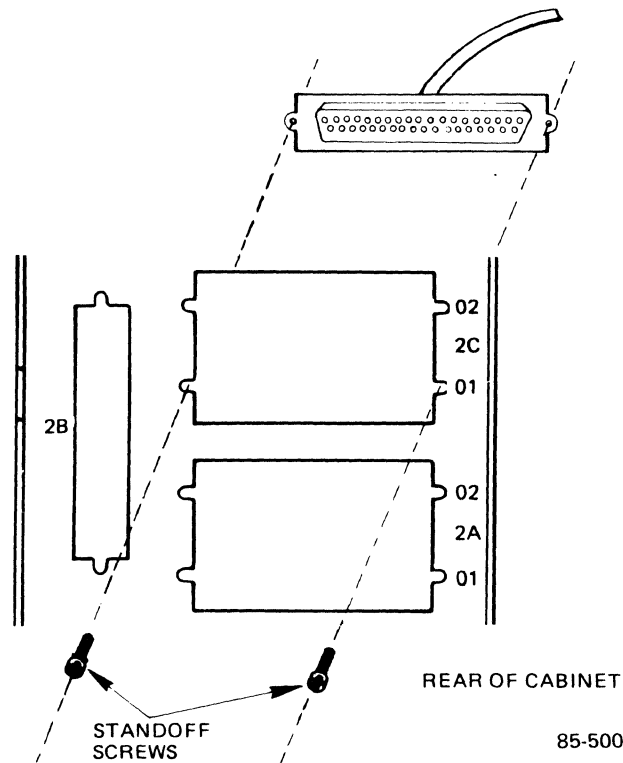

Figure 2-28. Cabling to the Disk Drive Bulkhead
2. Locate the special slotted standoff screws shipped with the cables (see Figure 2-28), and locate both connectors of the A-cable at the side of the drive's cable trough (see Figure 2-15).
3. Secure the J01 connector to the appropriate A, J01 slot on the bulkhead (see Figure 2-27) with the standoff screws as shown in Figure 2-28. Do not overtighten the screws (maximum torque is 4 inch-pounds).
5. Locate the B-cable at the side of the cable trough (see Figure 2-15). Secure it to the appropriate B slot on the bulkhead (see Figure 2-27) with the standoff screws as shown in Figure 2-28. Do not overtighten the screws (maximum torque is 4 inch-pounds).
7. Secure the J01 connector to the appropriate C, J01 slot on the bulkhead (see Figure 2-27) with the standoff screws as shown in Figure 2-28. Do not overtighten the screws (maximum torque is 4 inch-pounds).